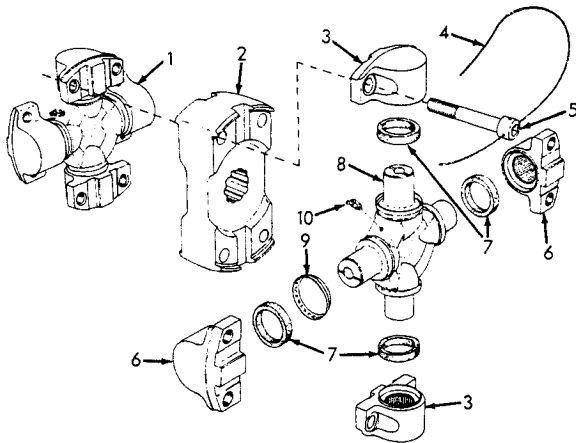

Fig. 60 -- Universal Joint Parts
3. Refer to Fig. 60, unlock and remove capscrews (5); remove front and rear spider assemblies from coupling plate (2).
1. Refer to Fig. 60, install new seal (7) and dust shield (9) in each bearing cup; lubricate bearings with light coat of grease and install bearing cups on spider journals from which they were removed. Be certain bearings are fully seated on spider journals. Install front and rear spider assemblies on coupling plate (2); secure with attaching capscrews (5). Lock capscrews with locking wire.